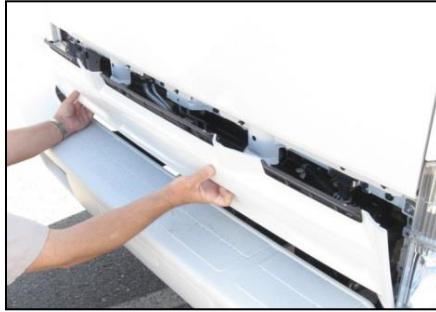

Figure 1
2. Remove the front grille: disengage the five (5) clips by sliding the tabs, remove the Phillips screw, then grasp the grille on the lower corner edges and pull outward to remove. (See Figure 1.)